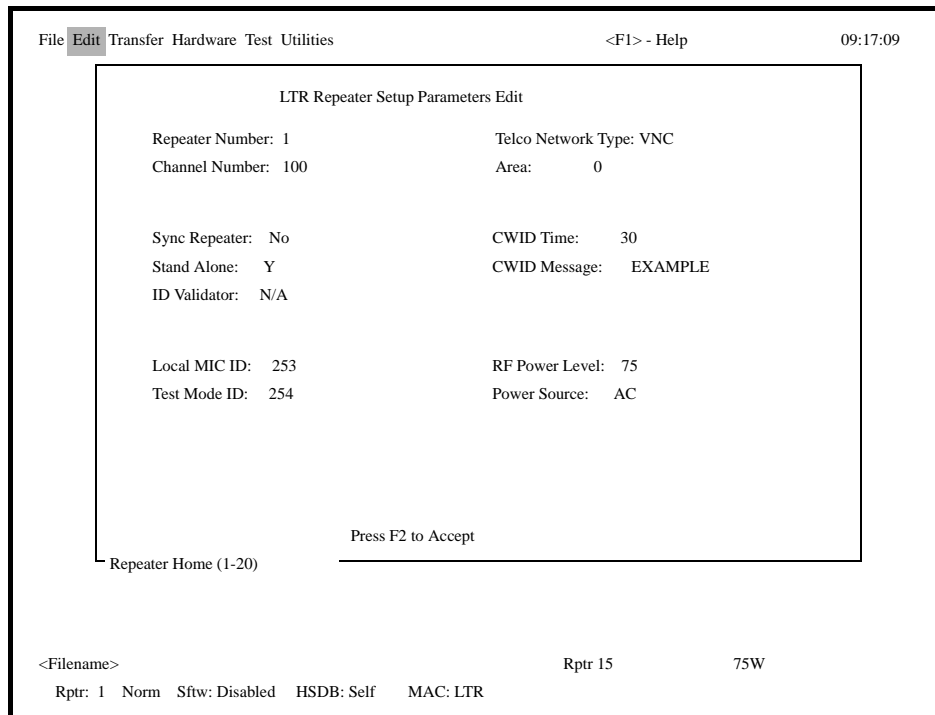

Figure 5-2 LTR SETUP PARAMETERS EDIT SCREEN
7. The Setup Parameters screen appears (see Figure 5-2). Fill in the parameters for this repeater. A brief description of the parameters is in Table 5-1. Full descriptions are in the Viking VX Repeater Service Manual.